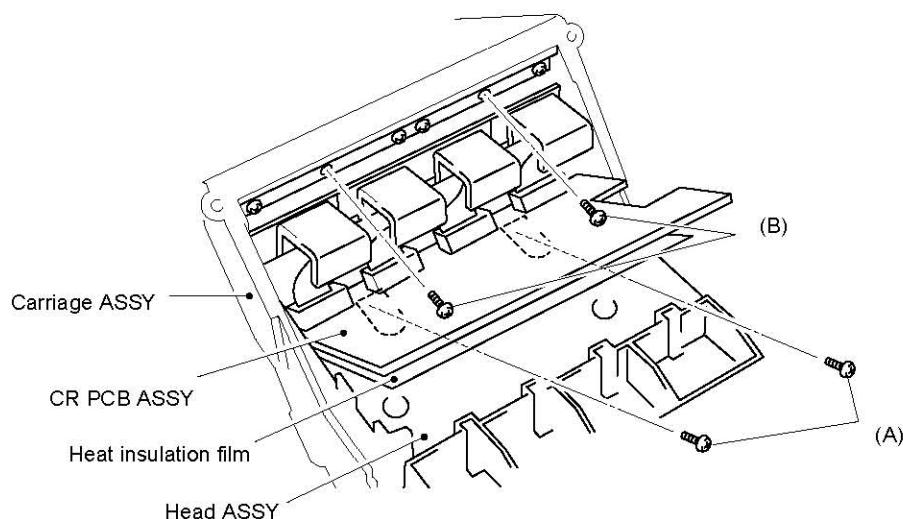

Fig. 4.69
- (2) Tighten the screws (A) first, then (B) while pushing down the Head ASSY using a screw driver. Refer to fig. 4.69 for the screws. Remove the Gap spacer.